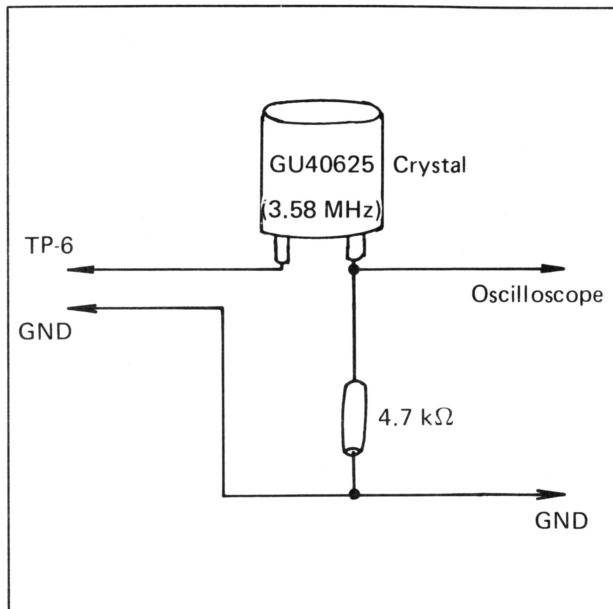

Fig. 4-10
2. Connect oscilloscope probe to TP-6 of the VIDEO board through the jig shown in Fig. 4-10.